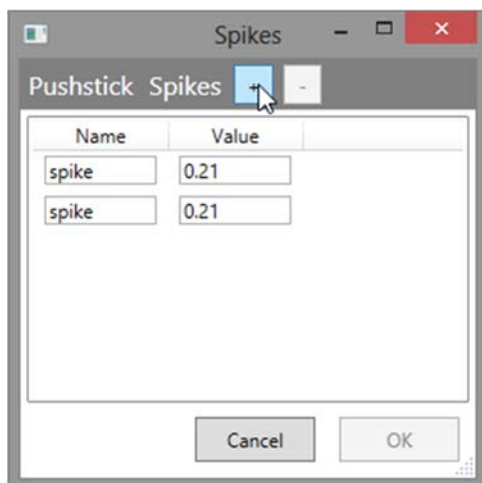

Figure 51
2. The **Spikes** window will appear. Add two spikes to the *Pushstick* by clicking the "+" button twice (Figure 51).